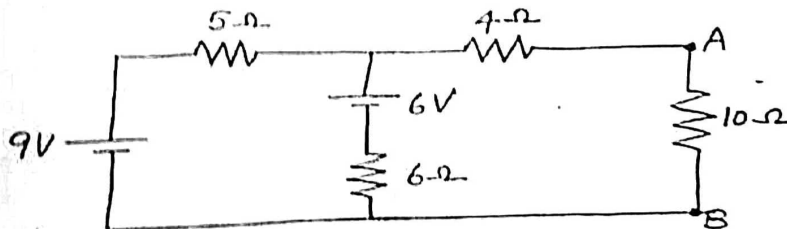

Fig. Q 1(c)
- c) Using Thevenin's theorem, find p.d across terminals AB in fig Q 1.C.